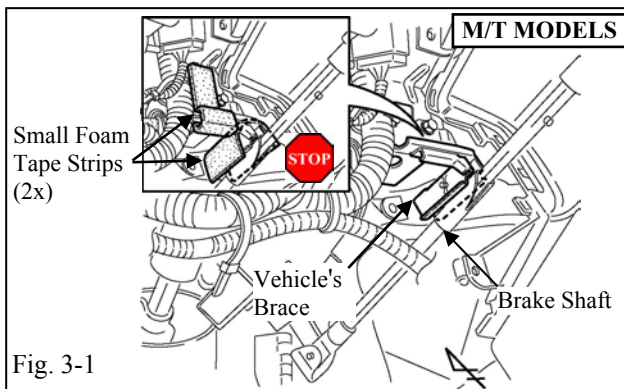

Fig. 3-1
- (a) Attach two small foam tape strips to the vehicle's brace as shown. (Fig. 3-1)
- (1) Do not attach anything to the brake shaft.